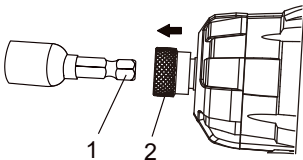

Fig. 11
2. Insert the hex end (1) into the hex drive (2) (Fig. 11).